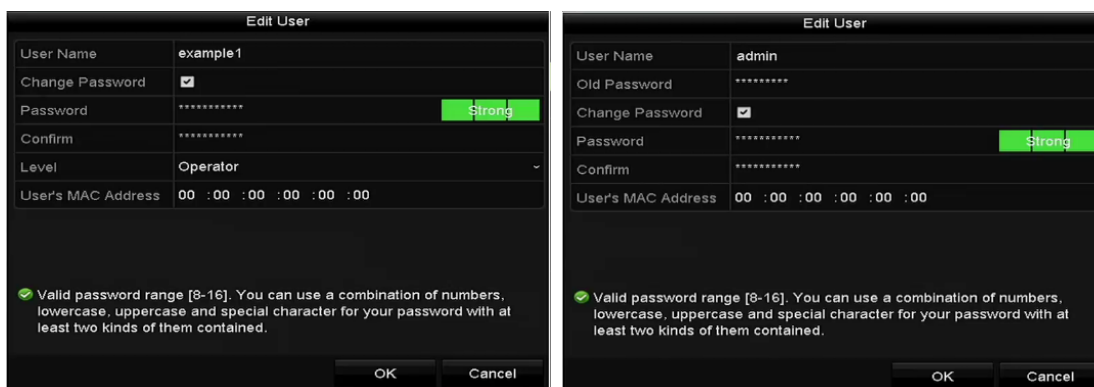

Figure 13. 10 Edit User Interface
3. Click the  icon to enter the Edit User interface, as shown in Figure 13. 10.